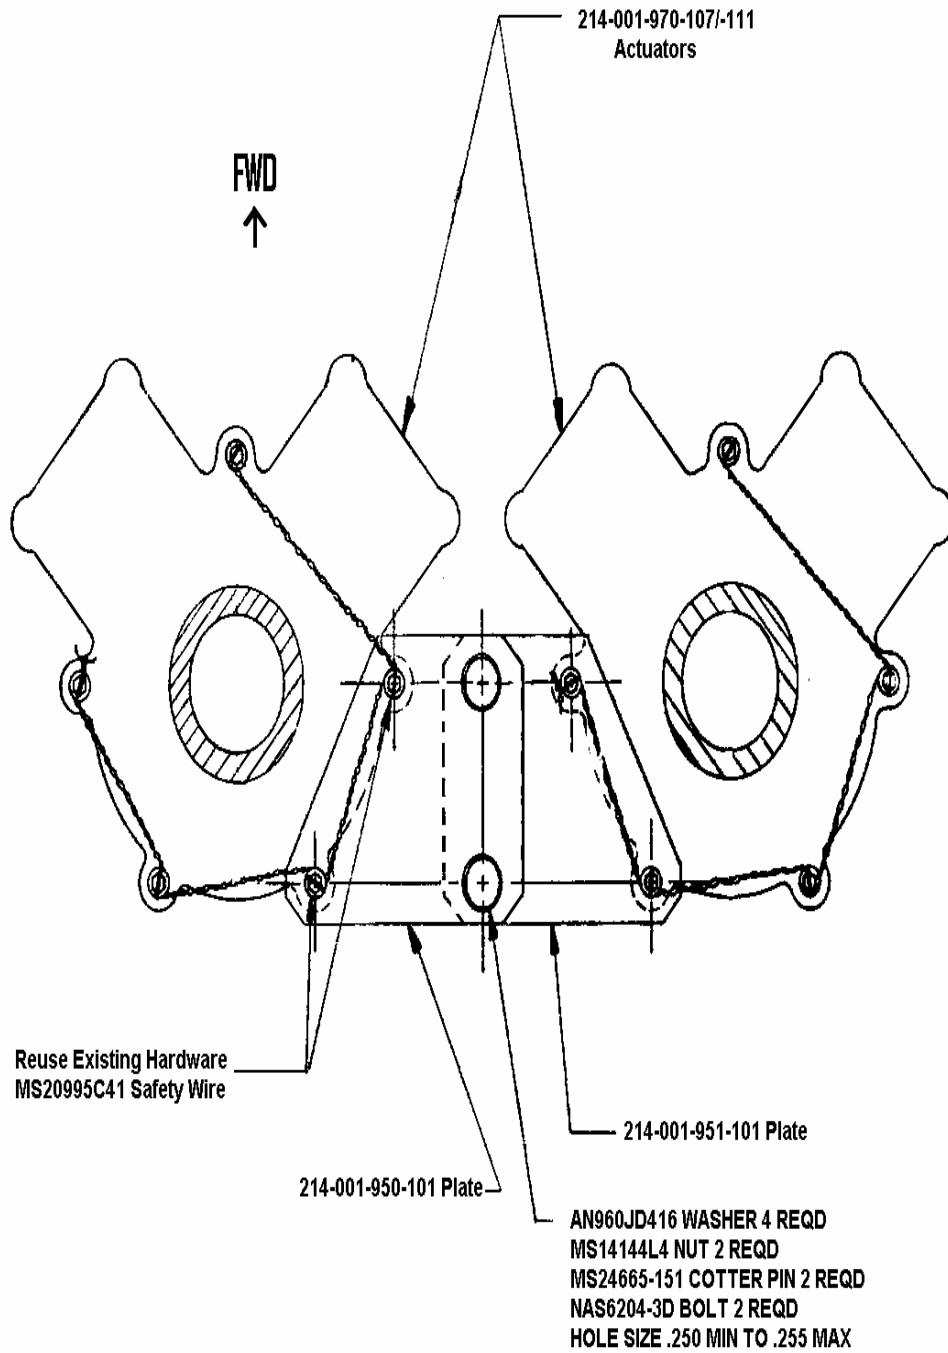

Fig. 1
2. Temporally attach the 214-001-950-101 plate to the 214-001-970-107/-111 actuator as shown in fig. 1. Attach the 214-001-951-101 plate to the 214-001-970-107/-111 actuator as shown in fig. 1.